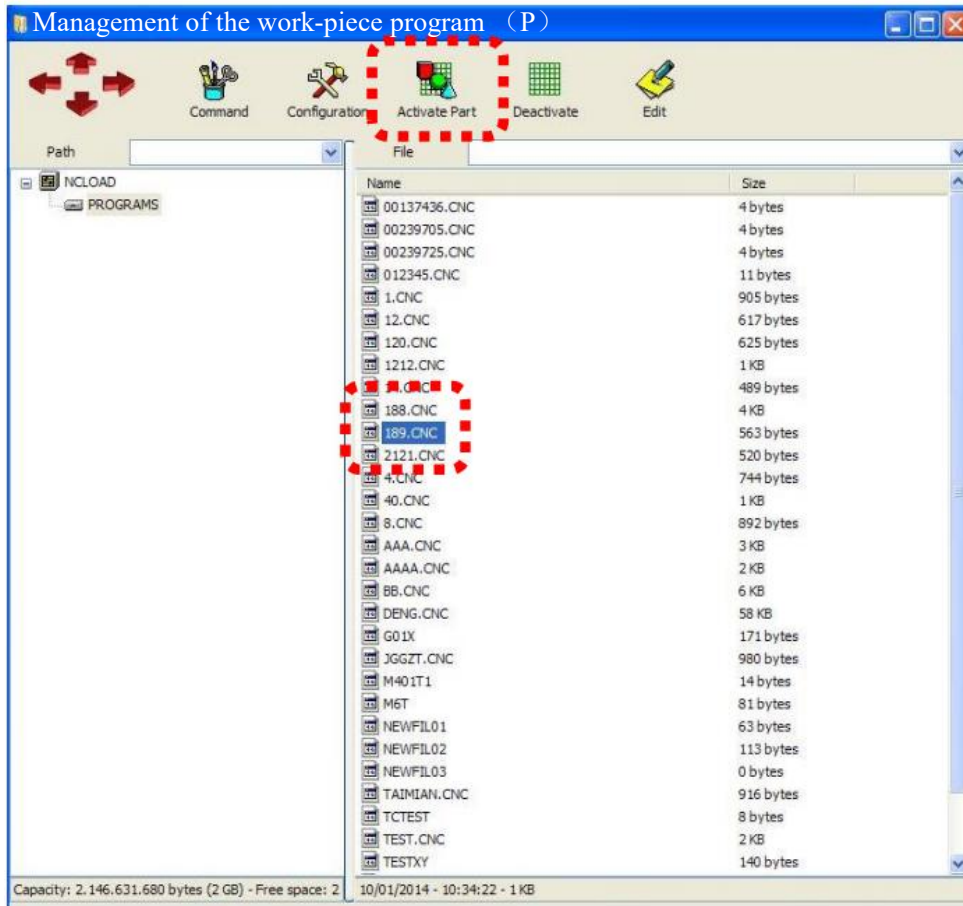

Fig. 6.16
- Click , and select "Management of work-piece program", as shown in Fig.6.16.
- Select the called program, and then Click  to call the files, as shown in Fig.6.16.